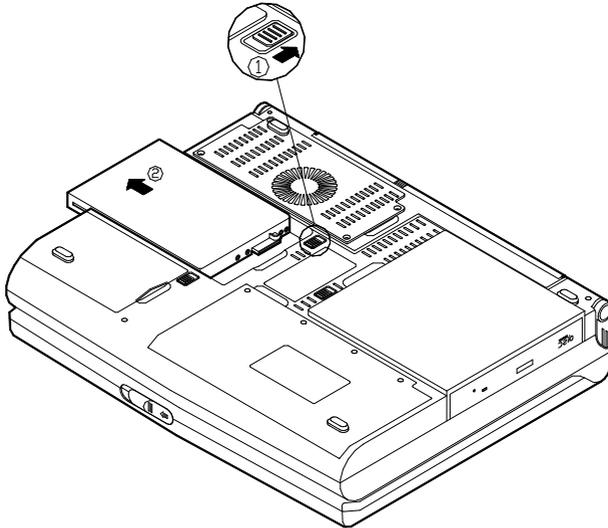

Figure 2-11
4. Press the latch in the direction indicated and take the floppy disk drive out of the computer (Figure 2-11).